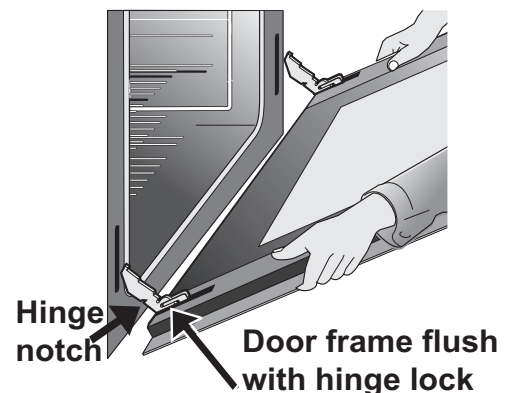

Figure 24: Remove door position
4. Pull the bottom of the door toward you while rotating the top of the door toward the appliance to completely disengage the hinge levers (Figure 24).
1. Firmly grasp both sides of oven door along the door sides. Do not use the oven door handle (Figure 24).
2. Hold the oven door at the same angle as the removal position. Carefully insert the hinge levers into the oven frame until you feel the hinge levers are seated into the hinge notches. The hinge arms must be fully seated into the hinge notches before the oven door can be fully opened. (Figure 24).